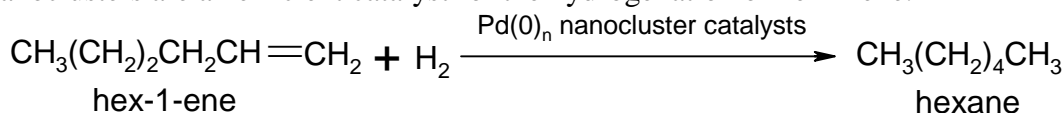

**Figure 4.** Hydrogen uptake curve. Temperature 30°C, 0.5 μmol of Pd(0), 5 cm3 of cyclohexene.
In a 400 cm3 high pressure reactor, an amount of the above polymer-protected Pd(0)n nanoclusters containing a total of 50 μmol of Pd(0) was dissolved in 50 cm3 of acetone, followed by the addition of 5 cm3 of cyclohexene. The reactor was then sealed, purged several times with prepurified H2 (dry and O2 free) and the H2 pressure was set to the desired value, approximately 4 atm. The solution was stirred continuously during the reaction and the temperature was kept constant at 30°C. H2 pressure vs. time until the end of the reaction is presented in Fig. 4.